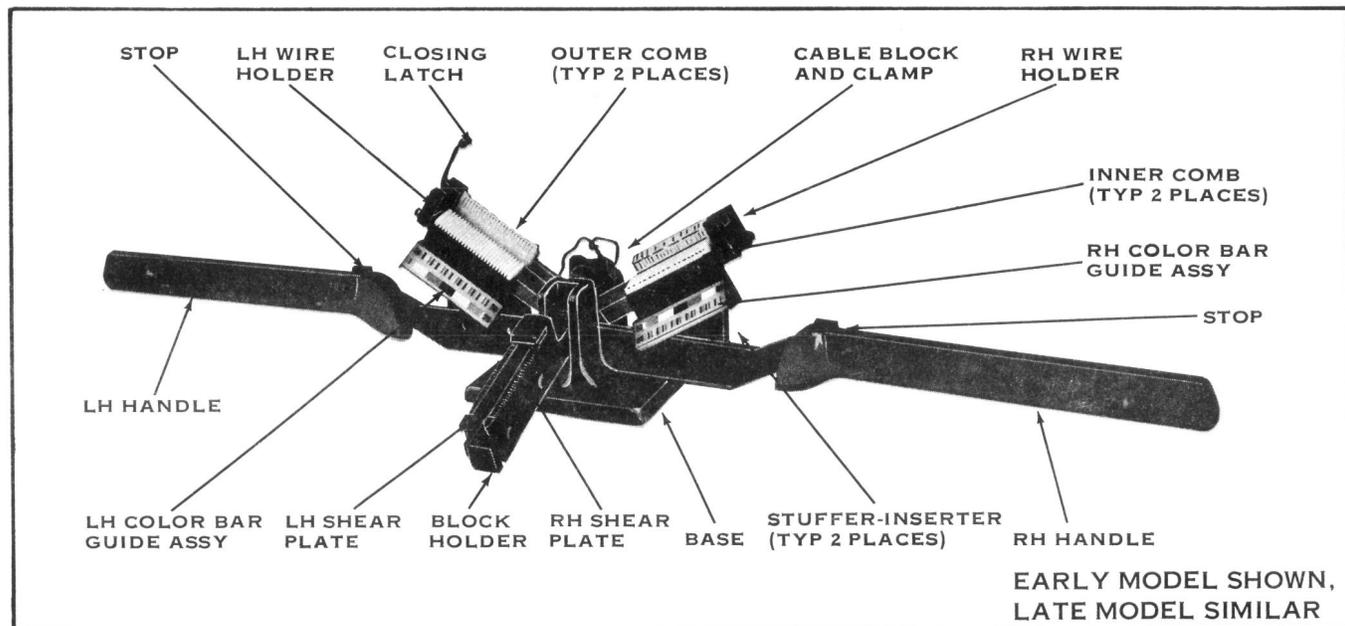

FIGURE 1
1.04 Basically, the two Tool models described in this practice are the same. The difference lies in the method of mounting and adjusting the shear plates in relation to the wire stuffers. Late model Tools have an improved design for the block holder, and the wire holders have adjustable back-up plates. (See Fig. 1.)